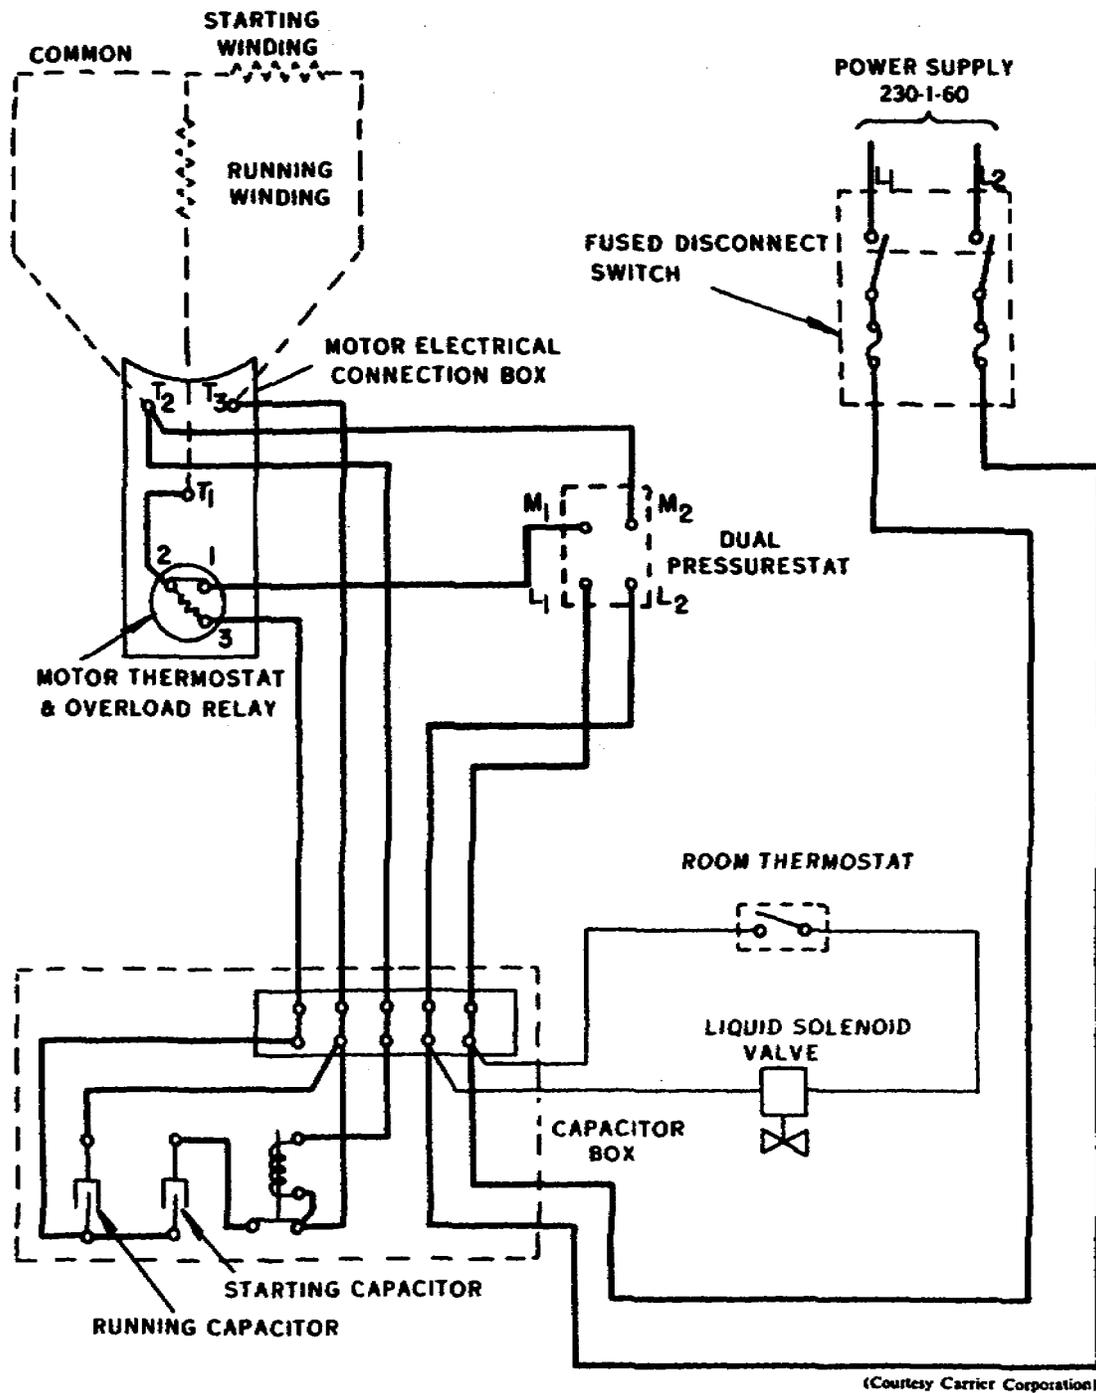

Figure 19. Single-phase wiring diagram for a semihermetic condensing unit.
- (1) Turn off electrical power to unit.
- (2) Connect the inverted and elevated refrigerant drum to the receiver charging valve.
- (3) Open drum service valve.
- (4) Purge air from charging line.
- (5) Open the charging valve.
- (6) Several minutes are required to transfer a drum of refrigerant in this manner; the transfer time can be shortened by heating the drum (do not use flame).
- (7) When sufficient charge has been transferred into the system, power can be turned on.
- (8) By checking the pressure gauges and the sight glass, you can determine when the system is fully charged. To maintain the efficiency of the machinery you have installed, you must service and troubleshoot it.
34. The high-pressure setting of the dual pressurestat, shown in figure 19, should not require a change; however, the low-pressure setting will probably require adjustment, depending upon the evaporator temperature. Check the high-pressure cutout by throttling
36. *Testing capacitors and relay.* The starting capacitor used in single-phase units is wired as shown in figure 19. Capacitors are connected in series with one power lead to the motor starting winding. These capacitors may fail because of a short or open circuit. If they are short circuited, the starting current draw will be excessive. The compressor may not start and will cause fuses to blow because of the increased load. If it is connected in a circuit feeding lights, the lights will dim. A humming sound from the compressor motor indicates improper phasing between the starting and running windings caused by an open-circuited capacitor. To check starting capacitors, replace them with good capacitors and observe the operation of the unit.